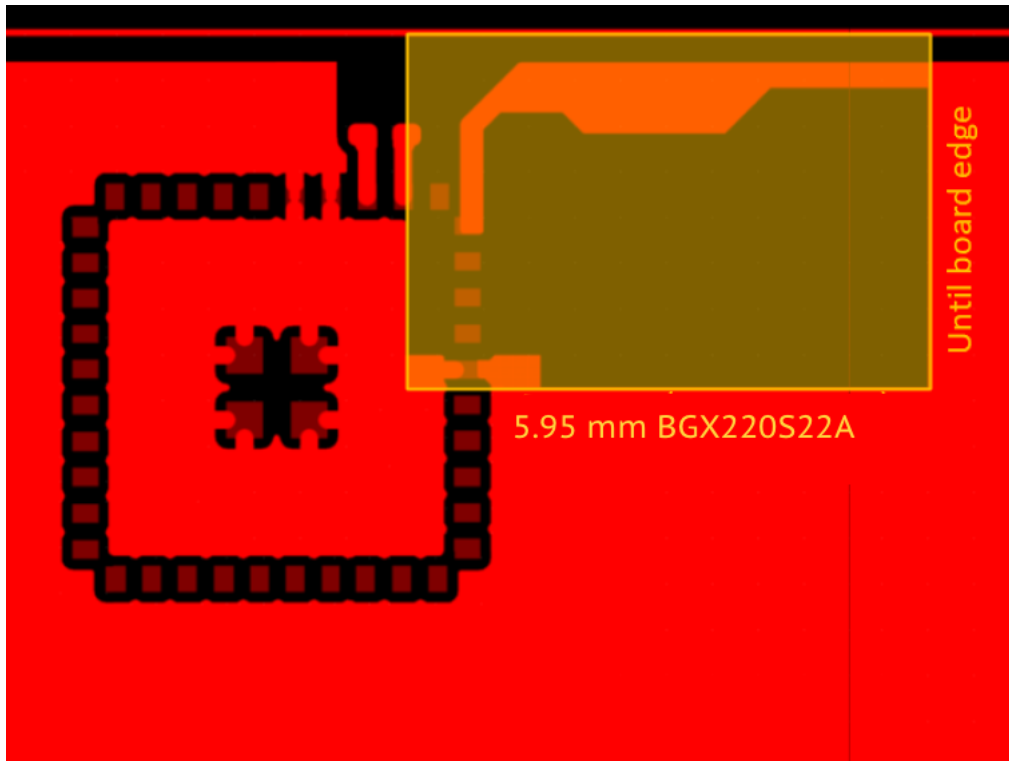

Figure 7.3. Antenna Clearance in Inner and Bottom Layers
- Make a cutout in all lower layers aligned with the right edge and the bottom edge of the antenna as indicated by the yellow box in Figure 7.3 Antenna Clearance in Inner and Bottom Layers on page 26.
- Generally ground planes are recommended in all areas of the application board except in the antenna keep-out area shown in Figure 7.3 Antenna Clearance in Inner and Bottom Layers on page 26.